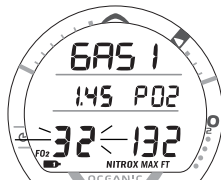

Fig. 22 - Set FO2 GAS 1
- Pressing and holding the S button will resume the scroll from 32 (Fig. 22) through 50%, then stop at AIR (or 21%).